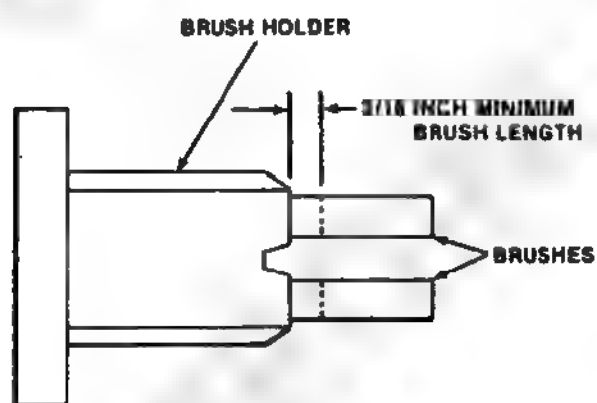

Figure 3-7. Brush Length Inspection.
(1) Inspect drive end housing assembly (21) and anti-drive end housing (9) for cracks and broken parts. Apply electrical tests to drive end housing assembly in accordance with instructions in table 2-1.
(2) Inspect stator (19) for charred or damaged winding end turns.
(3) Inspect rotor (14) for loose slip rings and for dirt or carbon film on slip ring brush surfaces. Inspect for damaged threads on both ends of shaft. Apply electrical tests to rotor in accordance with instructions in table 2-1.
(4) Inspect brush holder (10, fig. 3-3) and two brush assemblies (9, fig. 3-3) for cracks and broken parts. Check brushes for wear length according to figure 3-7.